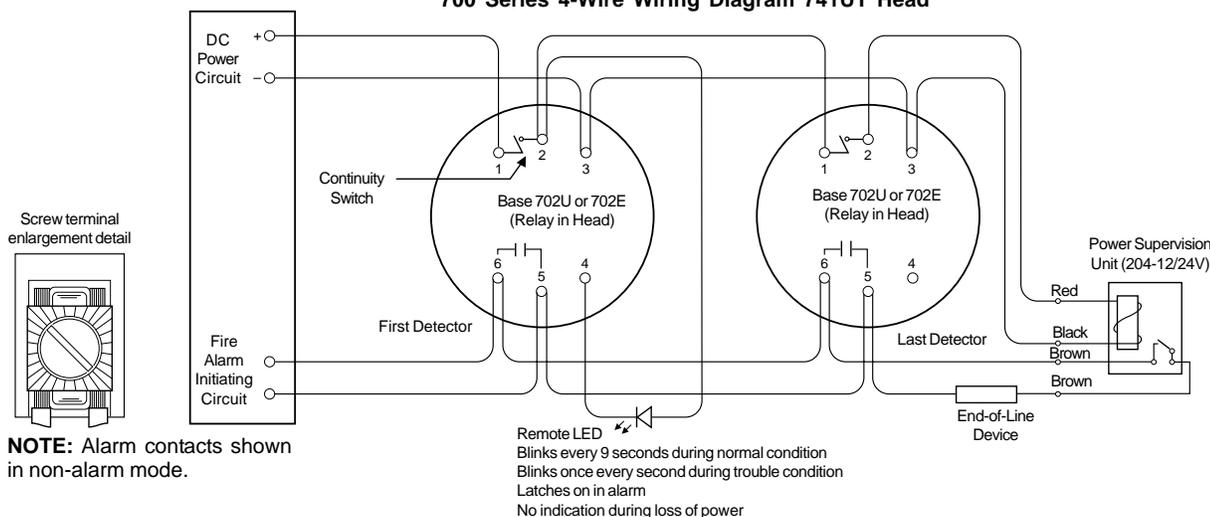

Figure 1. Wiring diagrams
- Locate wall-mounted smoke detectors so the top of the unit is 4 to 12 inches (10 to 30cm) below the ceiling. See Figure 1.
2. Pull wire through the electrical box, then through the center opening of the 700 Series universal base. Connect the wire to the appropriate terminals according to the wiring diagrams (see Figure 1). Each base is equipped with either three or six clamping type wire terminals and bifurcated contact springs for contact with detector head circuit pins. Each wire clamping terminal will accommodate two conductors up to 2.0 mm in diameter (#12 AWG).